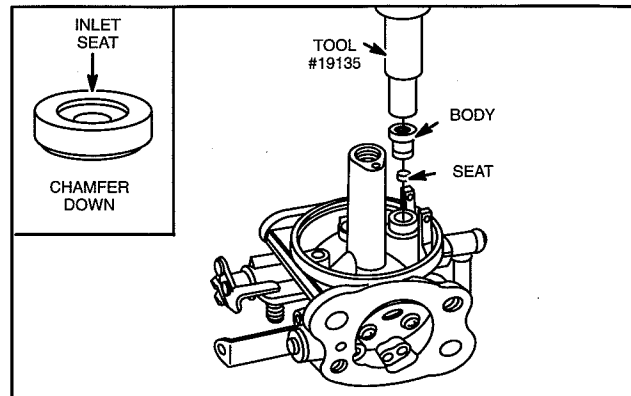

Fig. 35 – Install Inlet Body And Seat
1. Install new inlet seat with chamfered end down, Fig. 35.